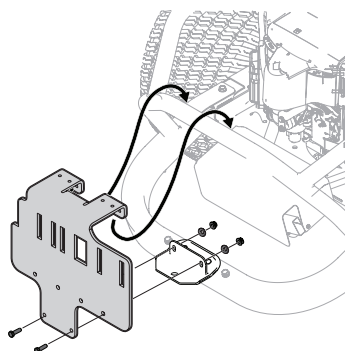

Figure 5
- Hang adapter bracket assembly onto upper frame square tube and connect to hitch bracket adapter (789-02298) with two screws (710-0376), two cup washers (736-0242), and two flange lock nuts (710-04063). See Figure 5.